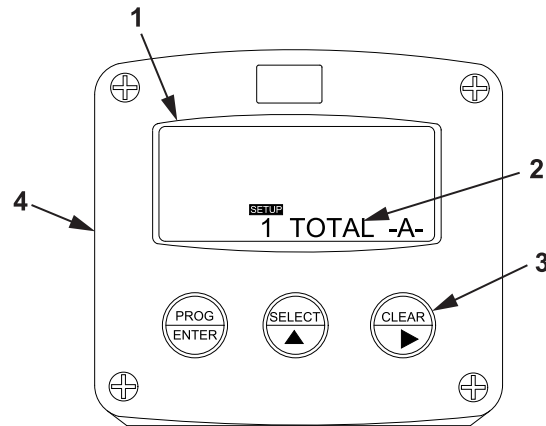

Figure 8. TOTAL A Display.
- j. Verify that TOTAL A (Figure 8, Item 2) appears on the display screen (Figure 8, Item 1).
- k. Press the CLEAR key (Figure 8, Item 3) on the tank volume meter monitor (Figure 8, Item 4).